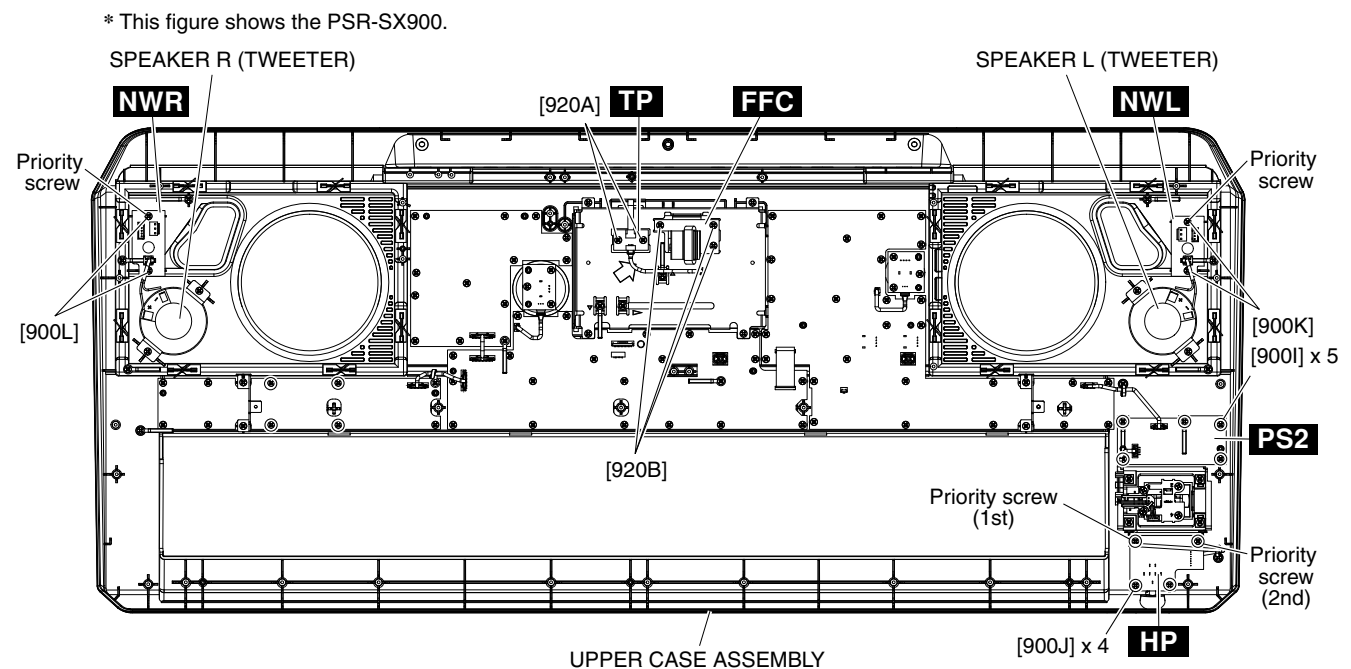

Fig. 8
- 14-2. Remove the five (5) screws marked [900I]. The PS2 circuit board can then be removed. (Fig. 8)
- 15-2. Remove the four (4) screws marked [900J]. The HP circuit board can then be removed. (Fig. 8)
16-3. Remove the two (2) screws marked [920A]. The TP circuit board can then be removed. (Fig. 8)
17-3. Remove the three (3) screws marked [920B]. The FFC circuit board can then be removed. (Fig. 8)
18-2. Remove the two (2) screws marked [900K]. The NWL circuit board can then be removed. (Fig. 8)
19-2. Remove the two (2) screws marked [900L]. The NWR circuit board can then be removed. (Fig. 8)